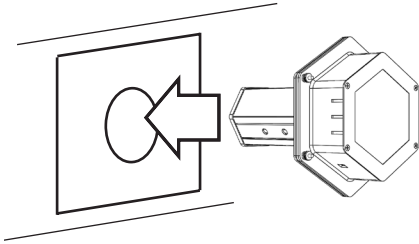

Fig. 4 Cut opening in duct, attach mounting plate, and install device
- Cut opening for the device. (See Fig. 4)